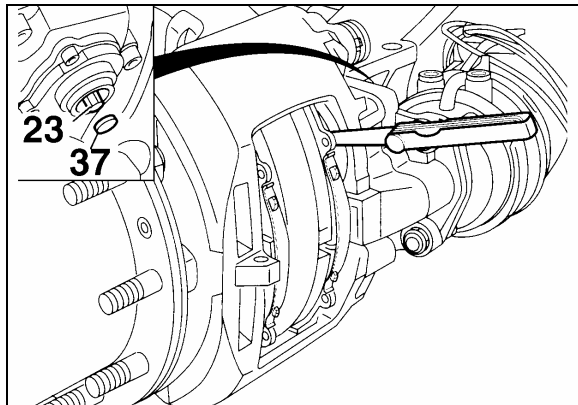

FIGURE 34: RUNNING CLEARANCE 12116
- a) Insert a feeler gauge 0.028 inch (0.7 mm thickness) between tappet and pad backplate (Fig. 34). Turn adjuster pinion clockwise until 0.028 inch (0.7 mm) clearance is achieved. Replace cap (37) (Prévost # 641313).
- b) To ensure a constant running clearance between the rotor and pads, the brake is equipped with an automatic adjuster unit. When the pads and rotor wear, the running clearance between the pads and rotor increases. The adjuster (23, Fig. 34) and turning device turn the threaded tubes by the amount necessary to compensate the wear.